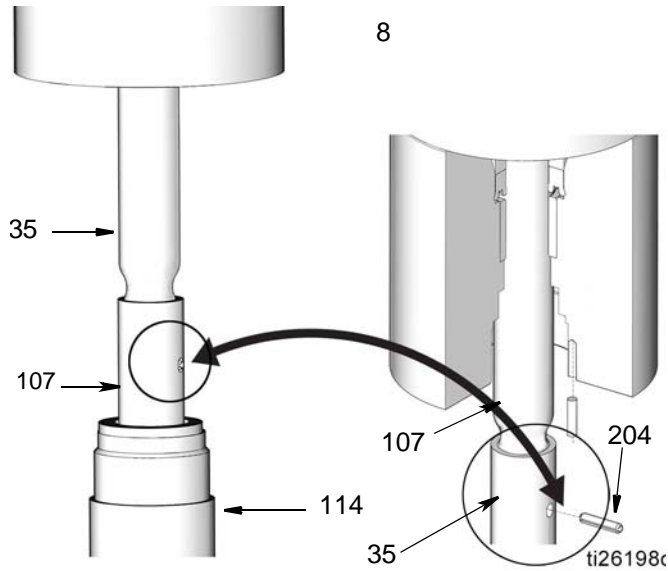

FIG. 5
- Use a strap wrench on spacer tube (114) to unscrew it out of the pump adapter (8) and slide it down as far as it will go (FIG. 5).
- Pull connecting rod (107) out of spacer tube (114) to access the pin (204). Remove pin (204) (FIG. 5).
- Unscrew displacement rod (35) from connecting rod (107) from displacement rod (35) (FIG. 5).